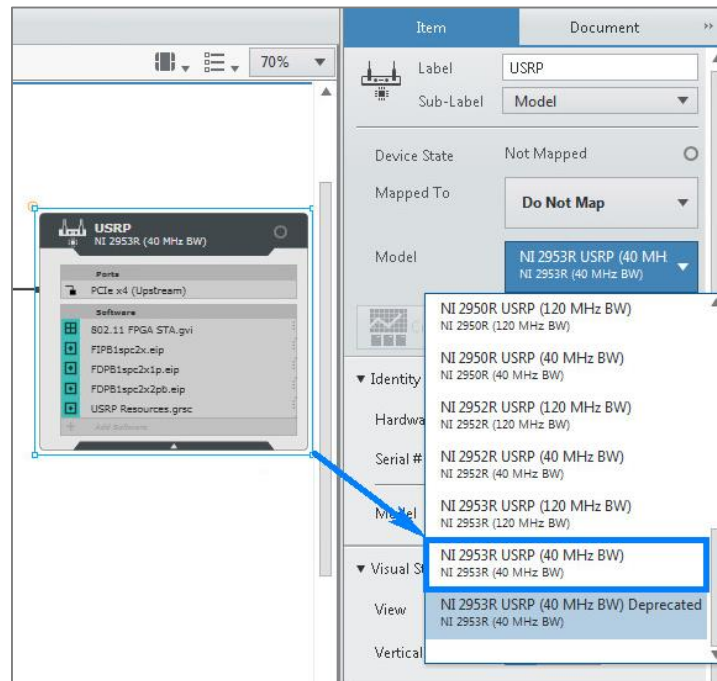

Figure 10: Change Deprecated Version
1. Select your USRP Target on the System Designer and change the "Model" in the right-hand rail to the non-deprecated version (ex: NI 2953R USRP (40 MHz BW) Deprecated » NI 2953R USRP (40 MHz BW)) like in Figure 10.